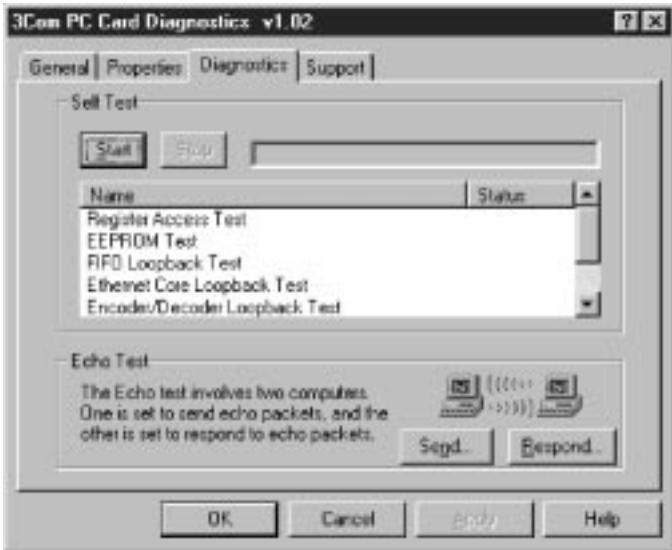

Figure 3-4 Diagnostics Screen
- Click the *Diagnostics* tab to display the diagnostics screen shown in Figure 3-4.
- 5 On the Diagnostics screen (Figure 3-4) of the sending computer, click *Send* and *Start*.